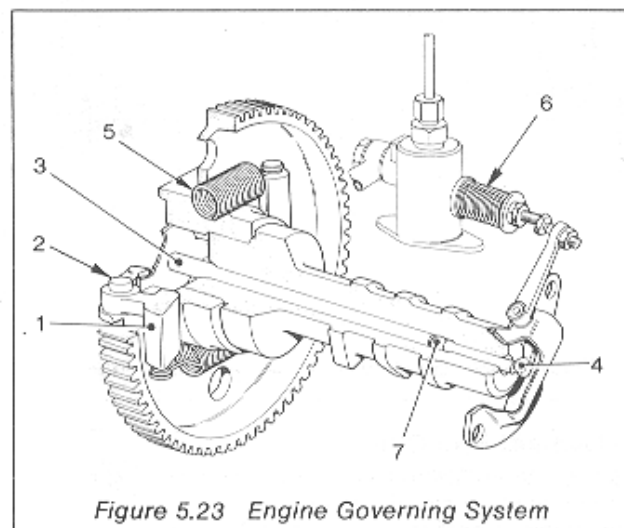

Figure 5.23 Engine Governing System
## Governor (Figure 5.23)
**5.47** Assemble the governor by replacing the steel ball and long push rod in the camshaft. Fit the governor weights using new pins (Figure 5.23).